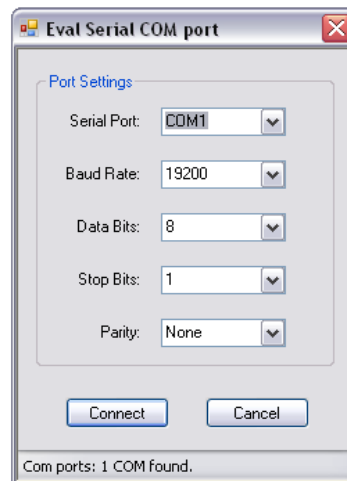

Figure 17: ISAC - Serial Port Configuration
- Configure the serial port under “EvalBoard” → “Configure” → “Serial Port” - choose the right port of your system from the drop menu (figure 17)